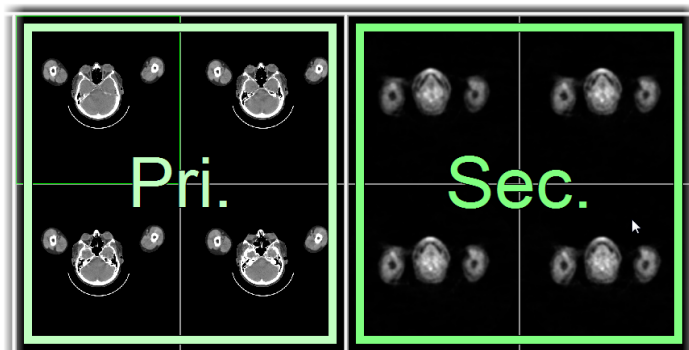

Figure 158 – Definition of synchronization for selected segments
3. Click on the other one of the segments to be synchronized (see Figure 158). If multiple segments need to be selected, hold **Ctrl** while clicking on them.